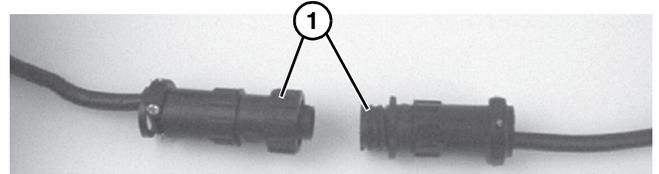

Figure 8
3. For DC variable speed motor, unplug motor cord at disconnect (**Figure 8, item 1**).